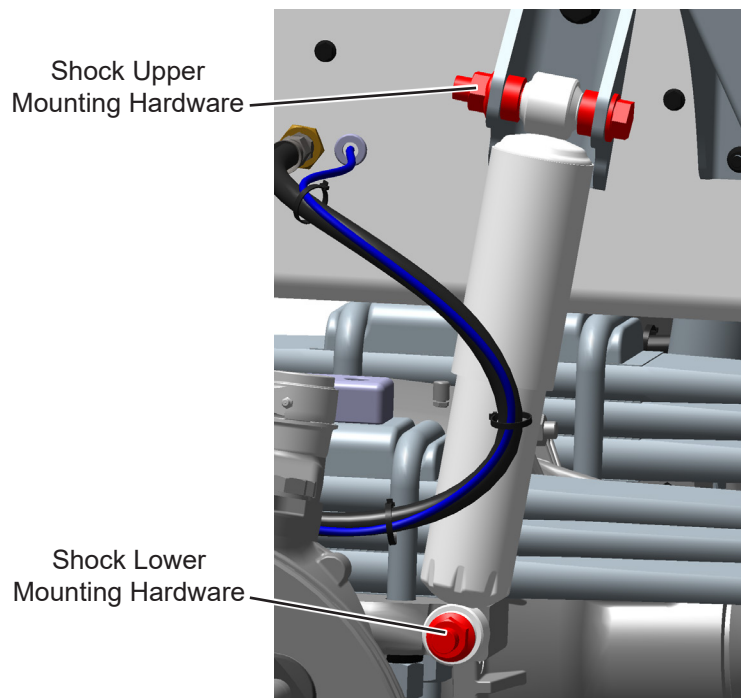

Figure 1 - Shock Absorber Removal
3. Loosen and remove lower mounting hardware from vehicle's left side front shock absorber. See Figure 1. The lock nut will not be reused.
4. Loosen and remove upper mounting hardware from vehicle's left side front shock absorber. See Figure 1. The lock nut will not be reused.